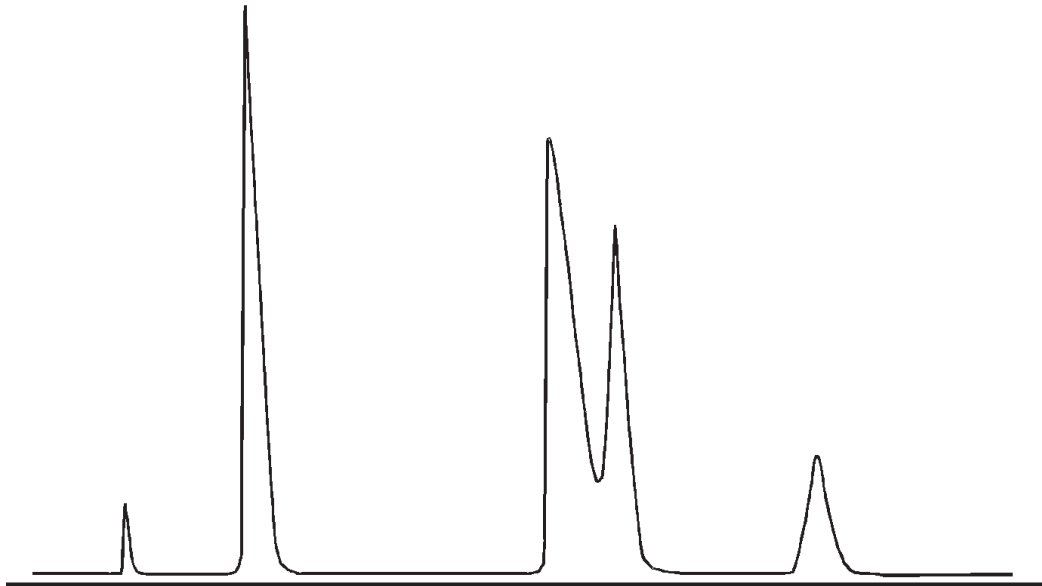

Figure 8-1
- D. Mark the point of injection on the chart paper as well as the other pertinent information about this sample. The first (small) peak to be eluted is the air peak and it will be followed by the 4 components of the mixture in the order listed in Table 8-1. You can verify the identity of each peak by running small samples of each liquid individually. Note the reproducibility of the retention times. A typical chromatogram is shown in Figure 8-1.